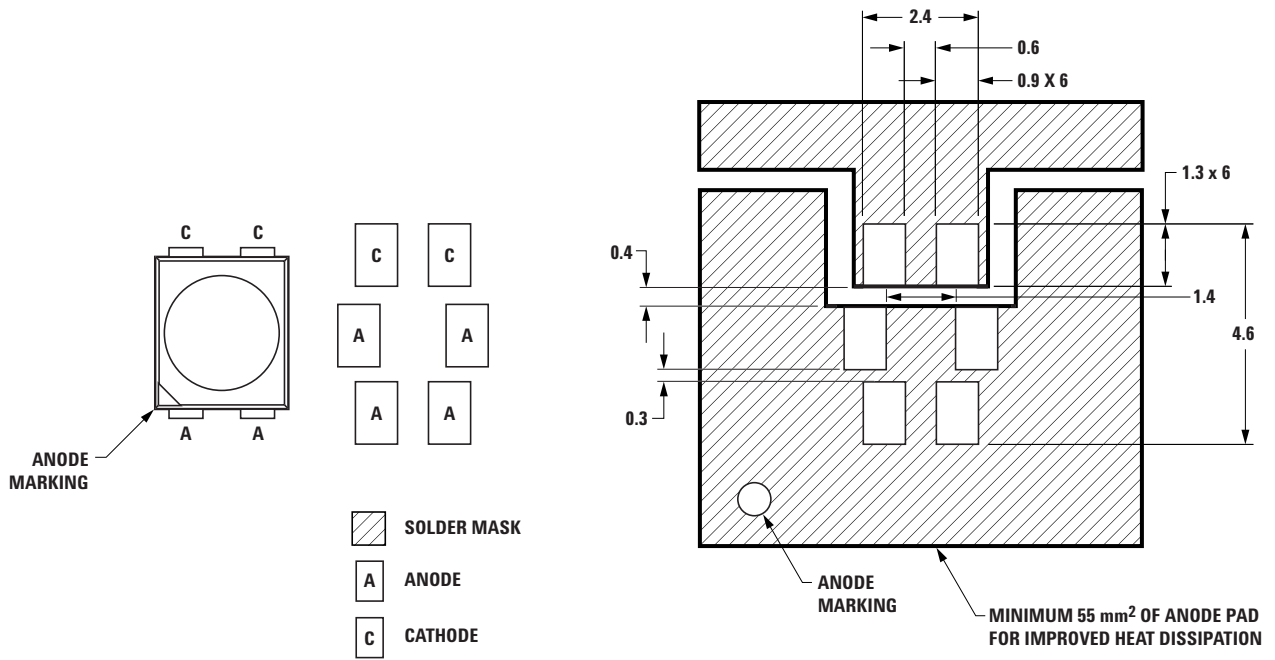

Figure 12. Recommended soldering pad pattern
2. LEAD POLARITY AS SHOWN IN FIGURE 12.